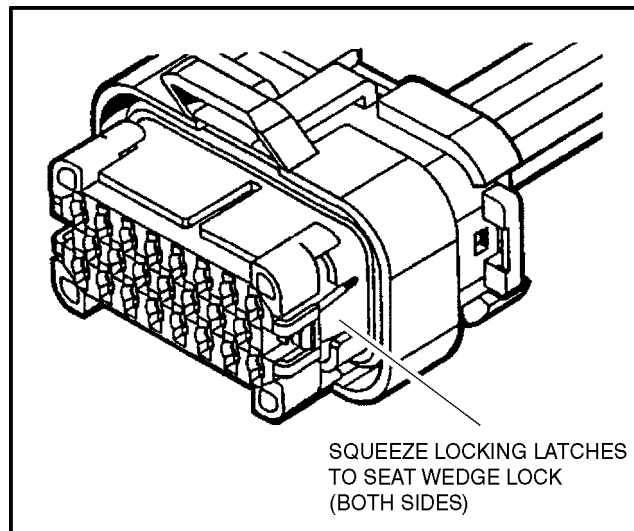

Figure 7-8. Connector Assembly (3 of 4)
3. After all required contacts have been inserted, the wedge lock must be closed to its locked position. Release the locking latches by squeezing them inward (See Figure 7-8. Connector Assembly (3 of 4)).